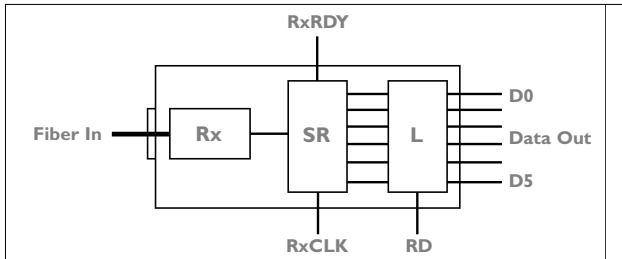

Figure 3. A block diagram of the fiber receiver. Serial data from the fiber is converted back into parallel.
The fiber optic receiver block diagram is illustrated in Figure 3. Serial data from the fiber is converted back into digital form by the fiber receiver (Rx) and presented to the input of the shift register (SR), which converts the data back into parallel form. When all the bits have been received, the shift register hands them off to a latch (L) so a copy is available even after a new set of bits starts coming in. The six bits of received data are available on the D0 through D5 outputs. The Receiver Ready (RxRDY) output indicates when a new set of data bits have been received. RxRDY is reset when the RD (Read) signal indicates the data bits have been read from the latch.